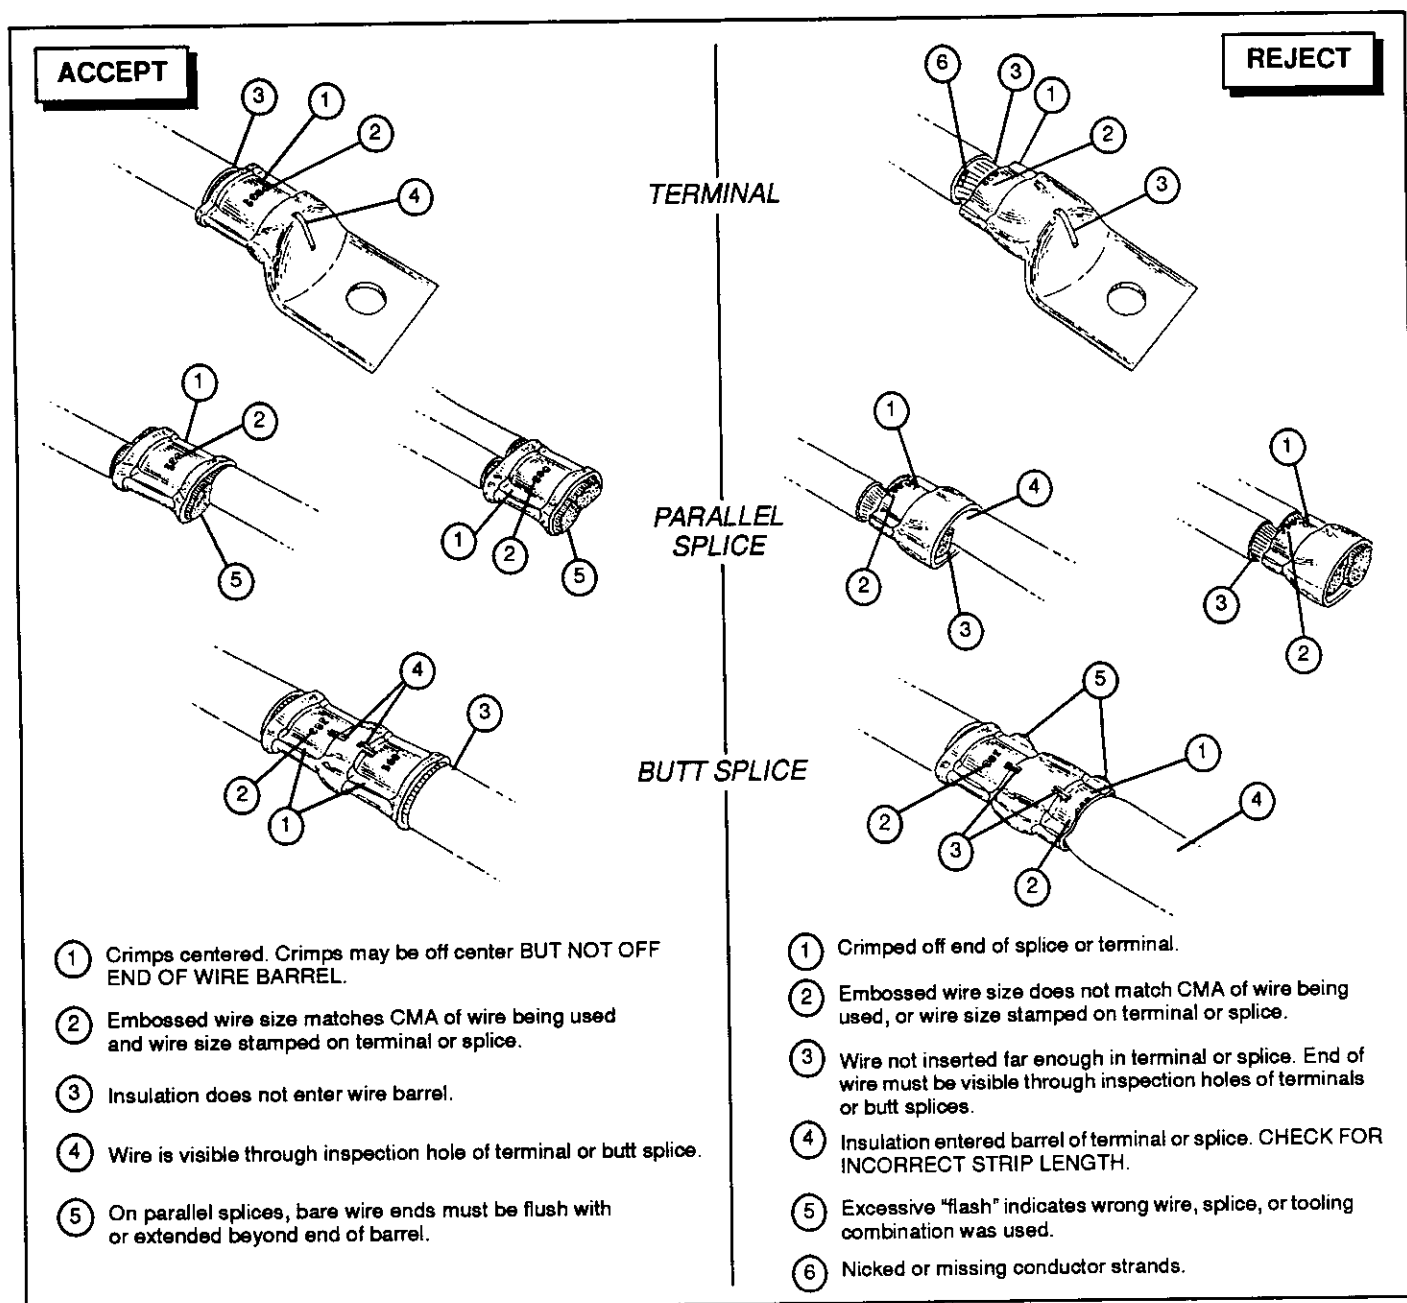

Fig. 5
5.1. Crimp Inspection (Figure 5)**NOTE**
Inspect crimped terminals or splices by checking the features described in Figure 5. Use only terminals or splices that meet the conditions shown in the ACCEPT column. Terminals and splices displaying the features shown in the REJECT column can be avoided by careful use of these instructions and by performing the maintenance and inspection procedures described in Paragraphs 5.2 and 5.3.